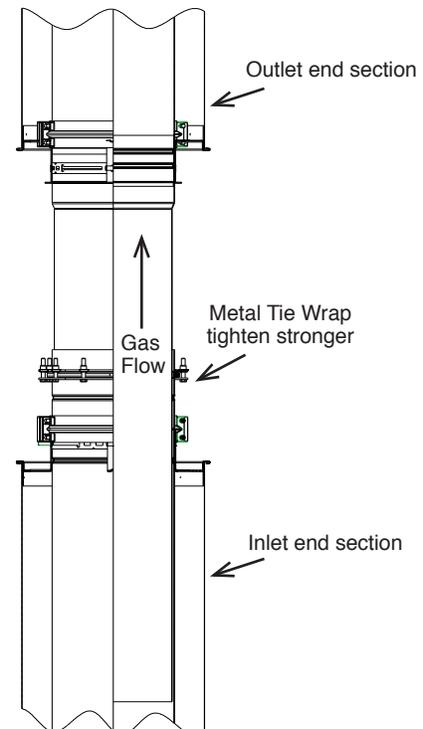

Figure 19 - Installation of Adjustable Length Steps 3 & 4
4. Strongly tighten the metal tie wrap so that the graphite packing is firmly compressed against the inner flue. See **Figure 19**.